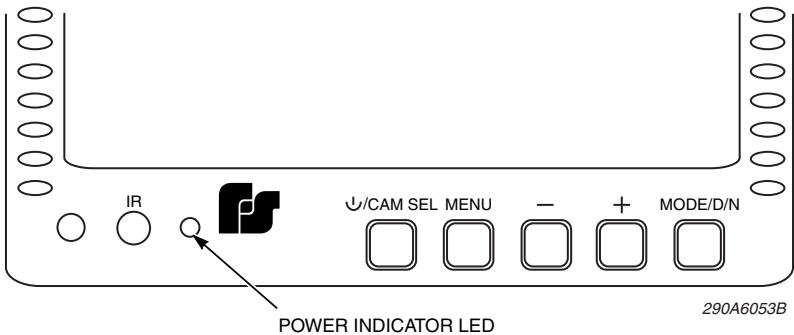

Figure 11. Monitor control panel
If POWER BUTTON is set to ACTION when you turn on the camera system by turning the vehicle ignition key to either the "Accessory" or "On" position, the red power indicator LED on the monitor turns on (Figure 11). To manually turn the system on, briefly press the  /CAM SEL (power/camera select) button. The split-screen image of all connected cameras, or the last display configuration selected, which is stored in memory, will appear on the monitor. See below for screen configuration specifics.
- Different screen configurations can be accessed by pressing the MODE/D/N button on the monitor (Figure 11) as follows: